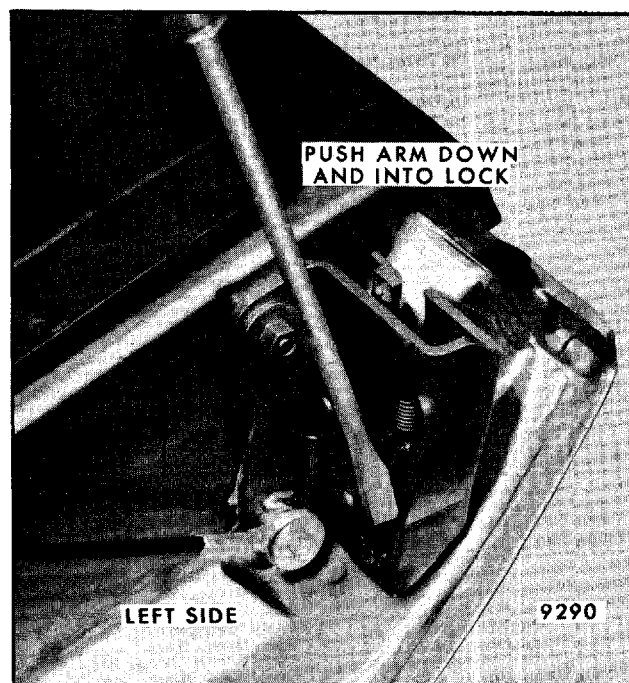

Fig. 7-134 - Manually Latch Left Upper Tailgate Lock
4. Manually latch left upper lock, Figure 7-134.